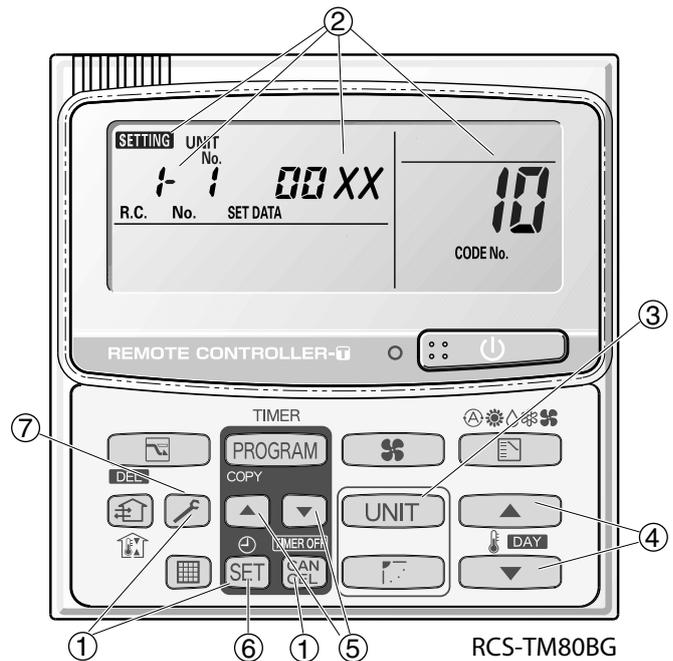

Fig. 2
- ① Press and hold the , **SET** and **CAN CEL** buttons simultaneously for 4 seconds or longer.
- ② “**SETTING**,” unit No. “**1-1**” (or “**ALL**” in the case of group control), item code “**10**,” and settings data “**00XX**” are displayed blinking on the remote controller LCD display (Fig. 2).